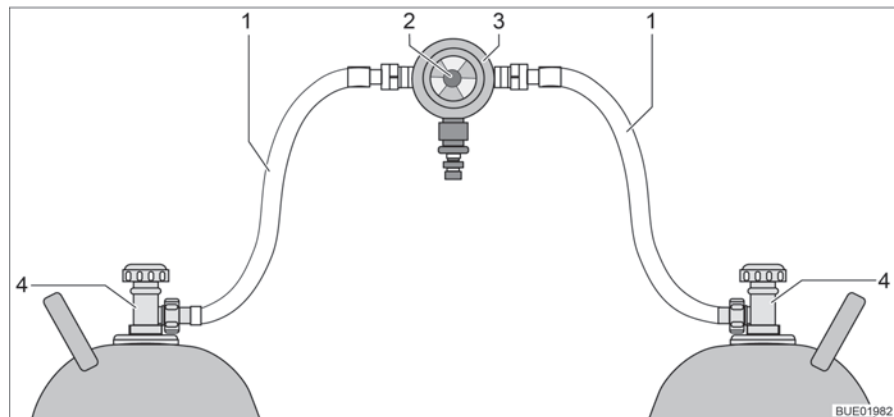
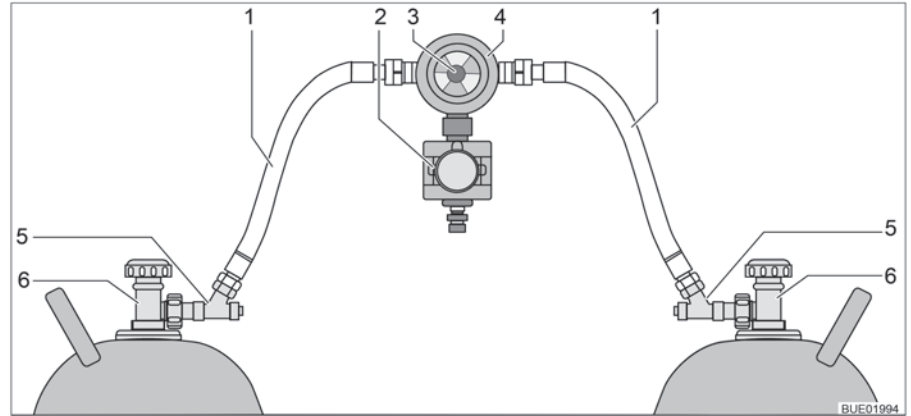

Fig. 110 Gas bottle switching facility
Fig. 111 Gas bottle switching facility with CPU
The gas bottle switching facility consists of a combined gas pressure regulator with reversing valve and indicator (Fig. 110,3). The gas bottle switching facility is installed between the two gas tubes (Fig. 110,1).
The gas bottle switching facility consists of a combined gas pressure regulator with reversing valve and indicator (Fig. 111,4), and an electrovalve (Fig. 111,2). The electrovalve blocks the gas supply to the vehicle in the event of a full braking, an accident, or an unusually great inclined position. The gas bottle switching facility is installed between the two gas tubes (Fig. 111,1) with hose break guards (Fig. 111,5).
Use the knob (Fig. 110,2 or Fig. 111,3) on the gas bottle switching facility to select which of the gas bottles is to be used as a primary bottle and which is to be used as a reserve bottle.
Only the electrical functions can be switched at the operating unit (Fig. 112). The regulator taps on the gas bottles (Fig. 110,4 or Fig. 111,6) must be opened and closed manually.
- Open the regulator taps of the gas bottles (Fig. 110,4 or Fig. 111,6).
- Press the hose break guards (Fig. 111,5) successively for 10 seconds.
- Use the knob (Fig. 110,2 or Fig. 111,3) on the switching facility to select the gas bottle which is to be the primary source of gas (primary bottle). Always turn the knob as far as it will go.
- Close the regulator taps of the gas bottles (Fig. 110,4 or Fig. 111,6).